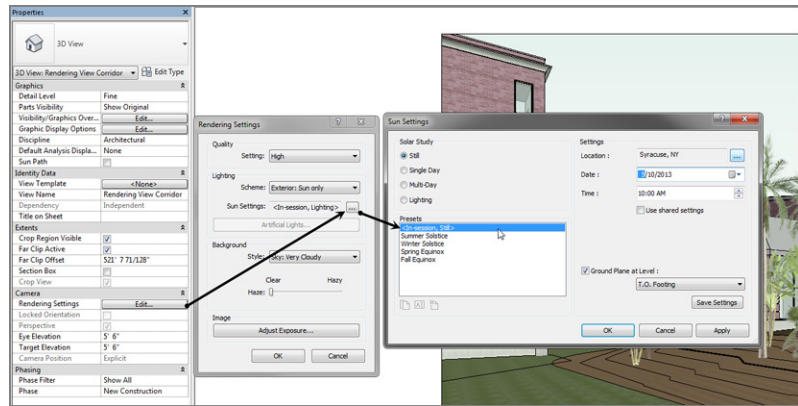

FIGURE 19.3: The Sun Settings dialog
16. Click the [...] button to the right of the Sun Settings category, as shown in Figure 19.3.
17. Make sure the Still choice is selected for Solar Study, and choose appropriate settings and your geographic location for the settings Date, Time, and Location. (I chose Syracuse, NY, and my birthday [05/10 is the default].) You can change these settings if you would like (see Figure 19.3).